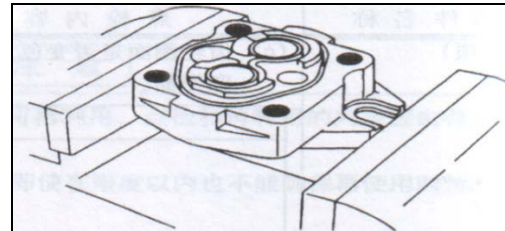

Fig. 5-28
(3) Reassembly
a) Fixed the front cover on the clamping. (See Fig. 5-28)